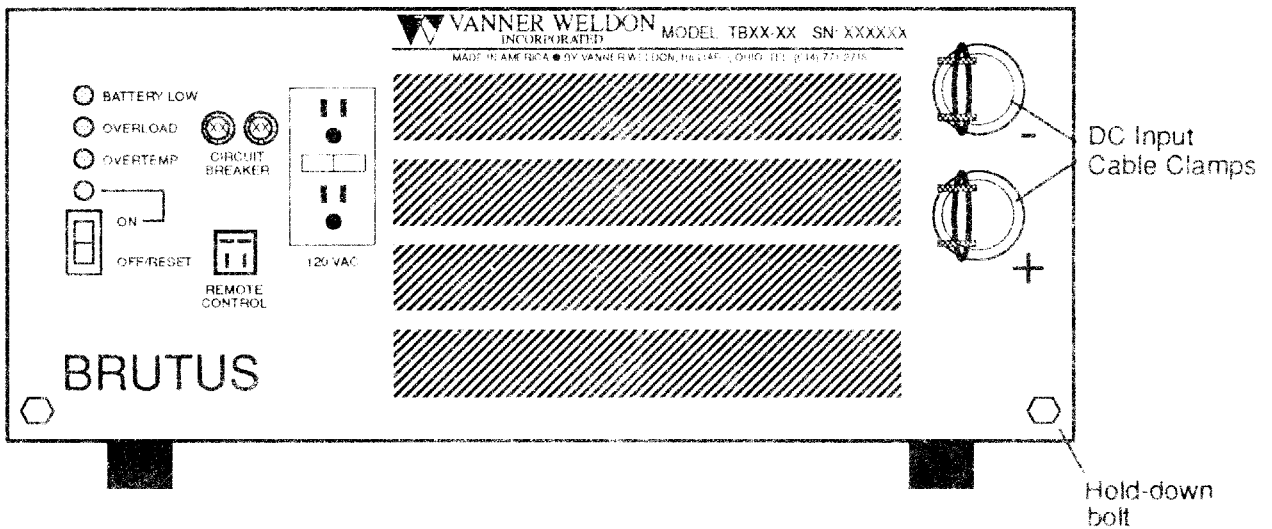

Figure 1.1 - Inverter Front Control Panel
1.5 INVERTER FRONT CONTROL PANEL (Refer to Fig. 1.1)